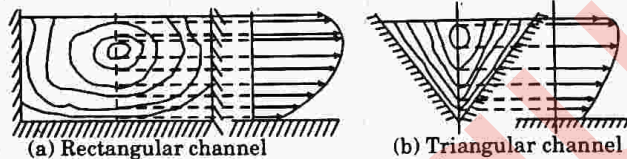

Fig. 1. Velocity distribution in open channel.
- The curve is asymptotic to abscissa and the line OA, i.e., $E = y$. (Refer Fig. 1).